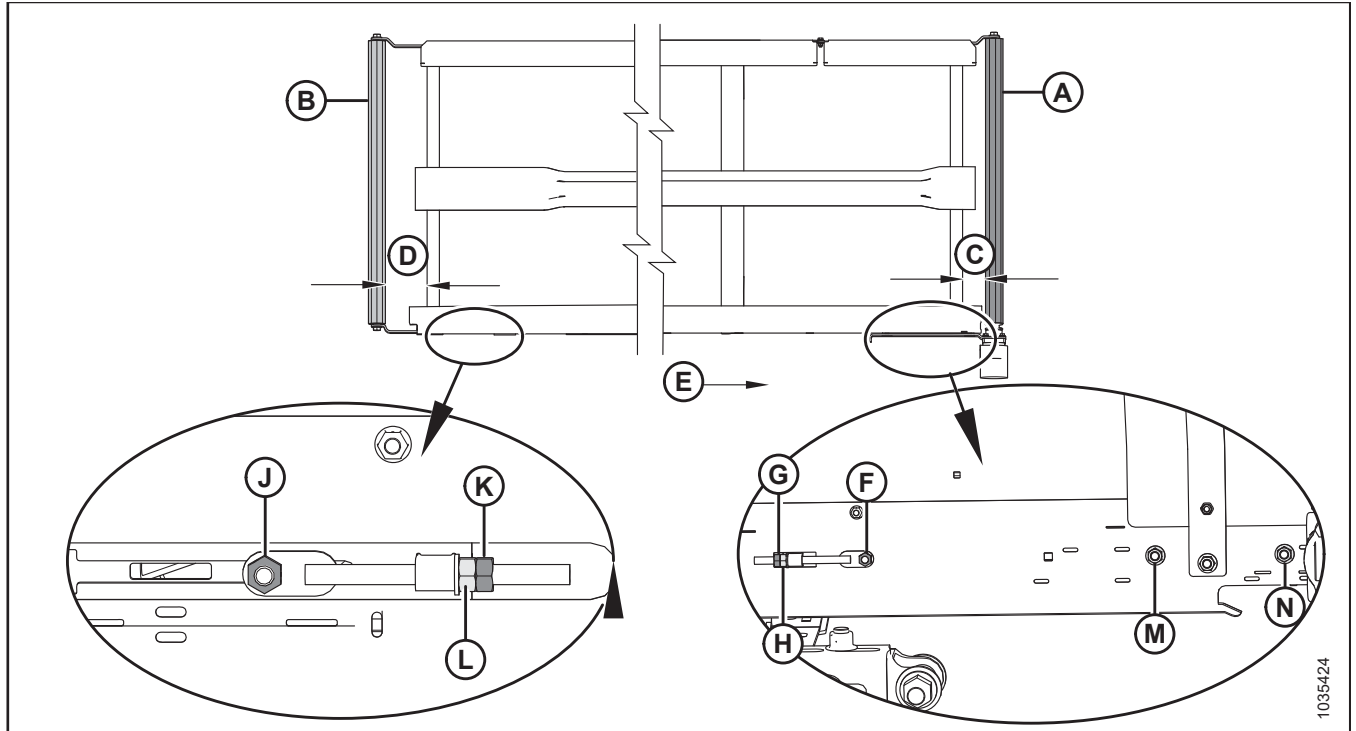

Figure 5.100: Draper Tracking Adjustments – Left Draper
2. Adjust drive roller (A) to change **C** (refer to Table 5.11, page 289 and Figure 5.100, page 289) as follows:
- a. Loosen nuts (F), (M), and (N), and jam nut (G).
- b. Turn adjuster nut (H).
- c. Tighten nuts (F), (M), and (N), and jam nut (G).
3. Adjust idler roller (B) to change **D** (refer to Table 5.11, page 289 and Figure 5.100, page 289) as follows:
- a. Loosen nut (J) and jam nut (K).
- b. Turn adjuster nut (L).